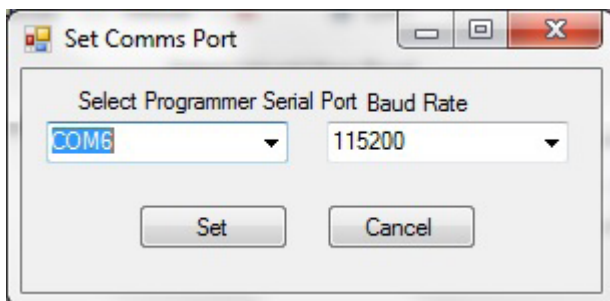

Figure 2. Comms Port for MSP-GANG Programmer
8. Select the appropriate CommsPort that the MSP-GANG Programmer is connected to. Set the Baud Rate to 115200 (see Figure 2). Click Set to use the selected settings, or Cancel to ignore use of this port (most cases). The other CommsPorts are relevant to factory calibration equipment and may be ignored.